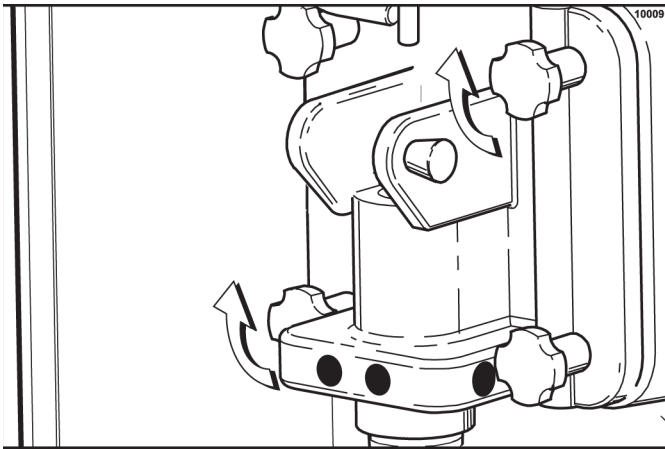

Figure 6-8
7. Position the freezer door on the four studs on the front of the freezing cylinder. Install the handscrews. Tighten equally in a crisscross pattern to ensure the door is secured. **Do not** overtighten. (See Figure 6-8.)